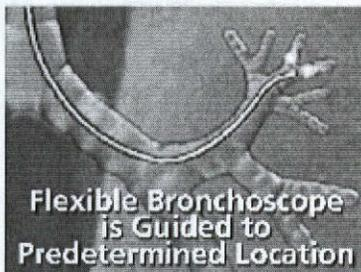

Figure 5
4. **IMPORTANT: Before removing the valve from the trachea, pull the valve as close as possible to the end of the bronchoscope.** (See Figure 5)
Pull valve as close as possible to the end of the bronchoscope (Figure 5)
The airways in your lung can be reached and seen using a flexible instrument called a bronchoscope (See Figure 5). The bronchoscope is a narrow, flexible tube that has a camera on the end. This tool and the use of a balloon catheter, give information to the doctor about where to place the valve(s) so that the air leak can be reduced or stopped and the tissue can seal.